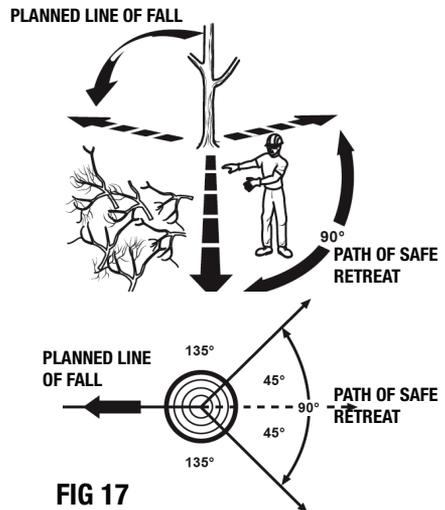

FIG 17
- Pick your escape route (or routes in case the intended route is blocked). Clear the immediate area around the tree and make sure there are no obstructions in your planned path of retreat. Clear the path of safe retreat approximately 135° from the planned line of fall. See Fig 17.